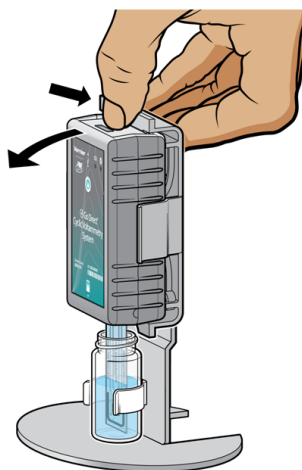

Figure 3
- a. Carefully remove the Cyclic Voltammetry System from the holder by pulling back on the top tab (see Figure 3).